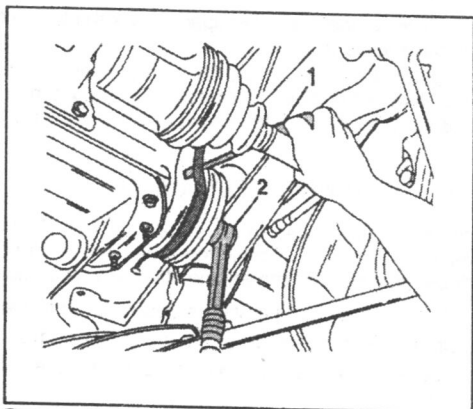

Fig. 1.72. — Removal of the water pump drive belt. Insert a screwdriver (1) below the V-belt and rotate the pulley with a socket (2) until the belt is free.
- Place the front end of the vehicle on chassis stands to gain access to the water pump drive belt. Remove the belt by inserting a screwdriver as shown in Fig. 1.72. Then turn the crankshaft pulley with a 35 mm socket until the belt slips off and can be taken off. Take care not to damage the belt.